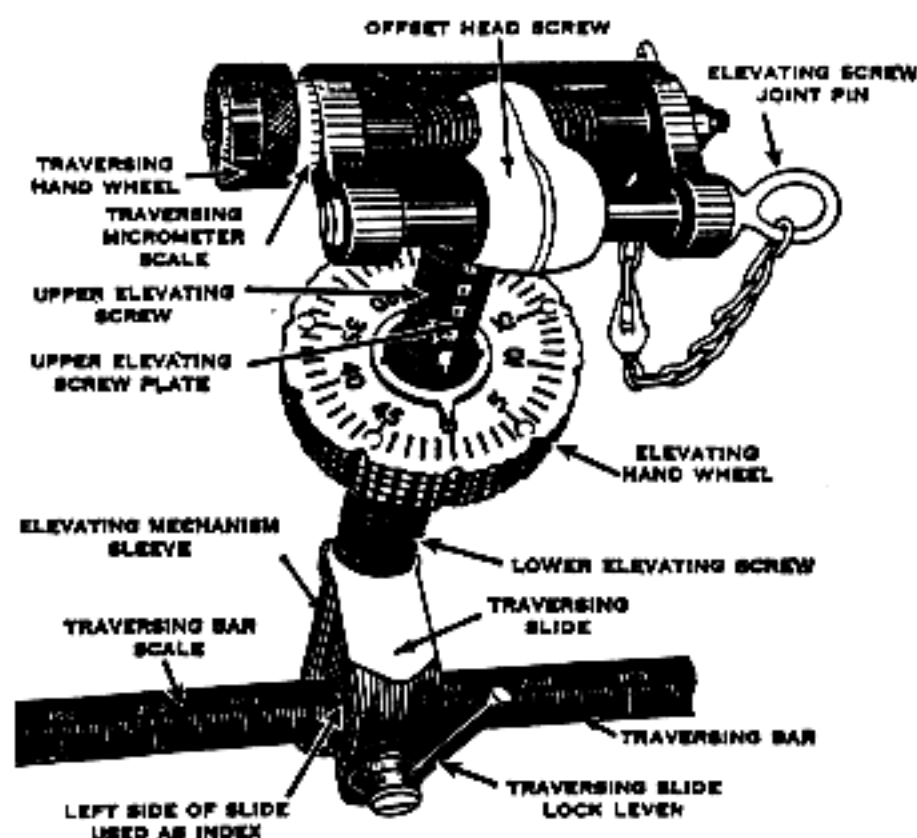

Figure 55. Traversing and elevating mechanism.
c. *Traversing and Elevating Mechanism* (fig. 55). The elevating mechanism is secured to the mounting bracket on the receiver by means of the elevating screw joint pin and is seated in the base of the grip when the gun is not mounted on the tripod. The mechanism consists of three assemblies; the traversing screw assembly, the upper elevating screw assembly, and the lower elevating screw sleeve.
- (1) The traversing screw assembly is made up of an elevating screw yoke which supports the traversing screw, elevating screw joint pin, and the traversing handwheel. Both the traversing screw and the elevating screw joint pin pass through the top of the upper elevating screw assembly.
- (2) The upper elevating screw assembly